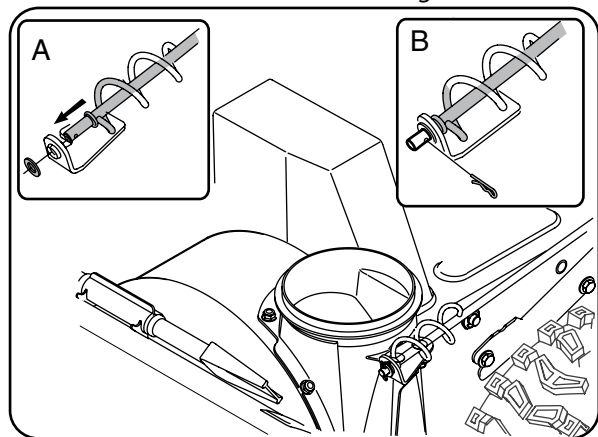

Figure 3-3
1. Remove the flat washer and hairpin clip from the end of the chute directional control. See Fig. 3-3.